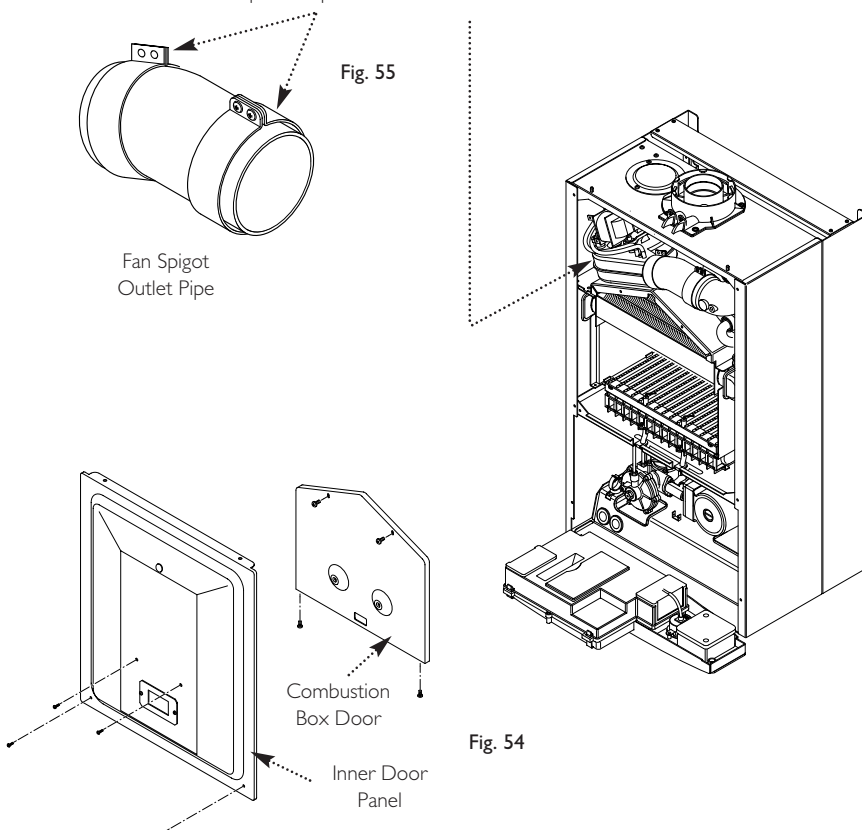

Fig. 54
6. Remove the screws securing the inner door panel. Lift the panel slightly to disengage it from the studs on top of the case (Fig. 54).
10. Remove the four screws securing the combustion box door and remove the door (Fig. 54).